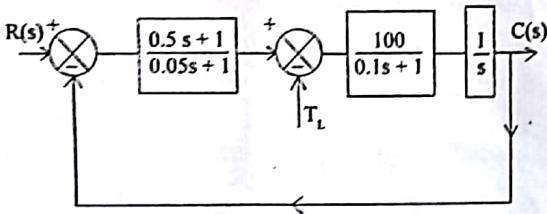

Fig. 6(a)
6. (a) The block diagram in Fig. 6(a) represents a radar antenna drive.